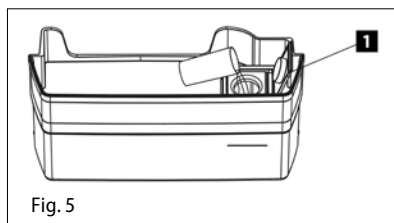

Fig. 5
- Open the water tank top cover (1). Slowly fill the tank with clean drinking water up to the line marked "2L". Close the top cover to prevent water leakage. (Fig. 5)